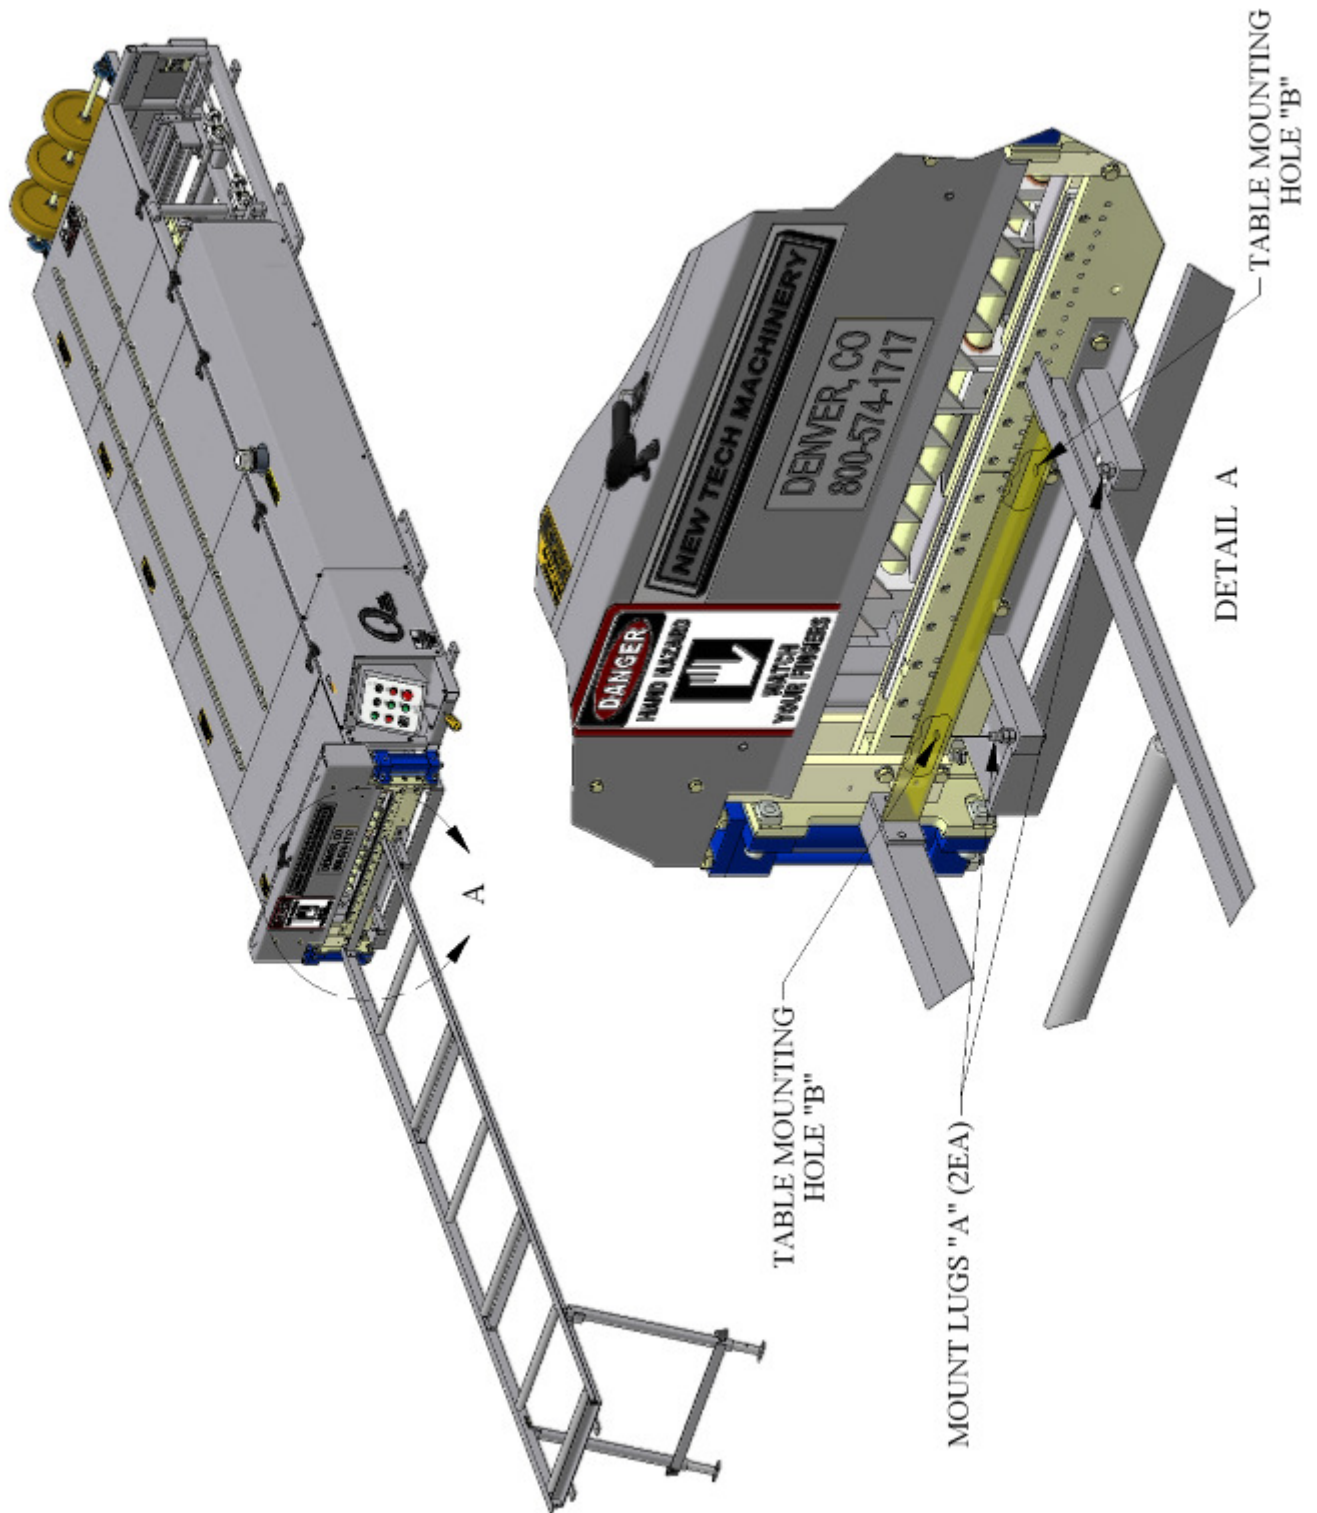
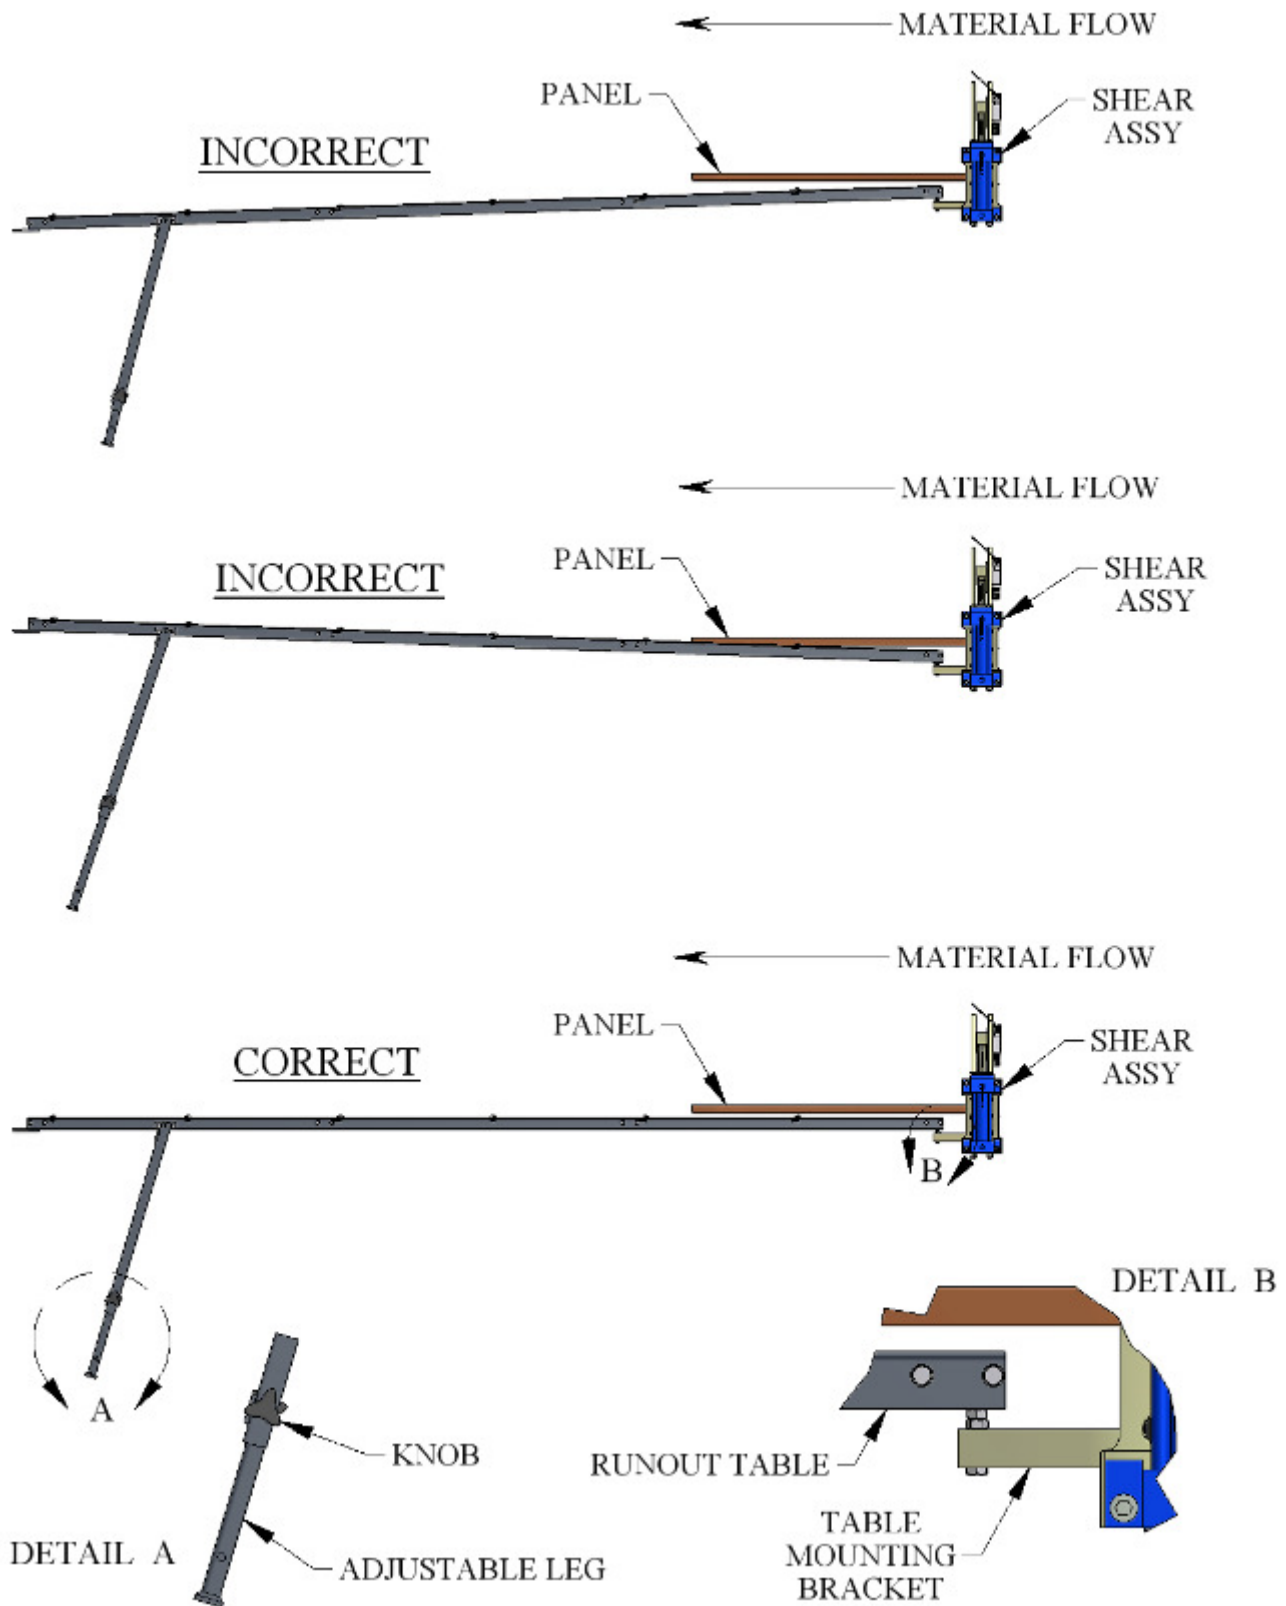

Figure 80: Run Out Table
Figure 81: Run Out Table Setup
The Run-Out Table (Figure 80 & Figure 81) attaches to the Exit End of the Shear assembly, and is used to support the panel as it exits the machine. It is available in 10 ft. long sections that fasten together, and have adjustable legs so they can be set to the correct height. The Remote Limit Switch (Figure 7 on page 14) is designed to be used with the run out tables for controlling panel length.
4. Loosen the 2 knob-handles on the leg assembly and allow the legs to fall free. Sight the height of the table on the left and right side adjusting it level to the machine using the knob-handles to lock the legs in place. See Figure 81 for correct and incorrect set up and details.